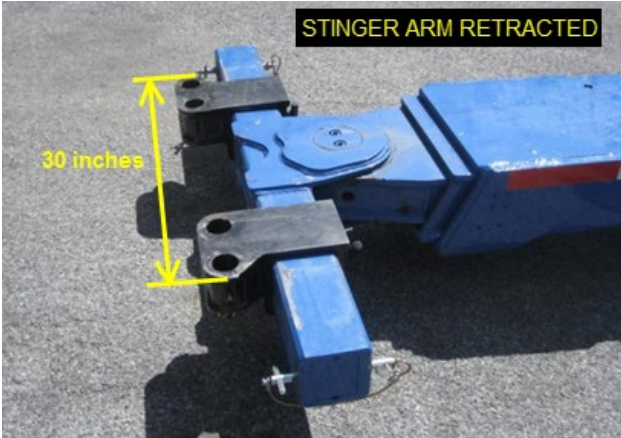

FIGURE 55
3. Retract the tow truck stinger arm (Figure 55).
4. Pre-adjust spacing between the axle fork holders. The spacing between the most distant edges of the folk holders should be **30 inches** (Figure 55).